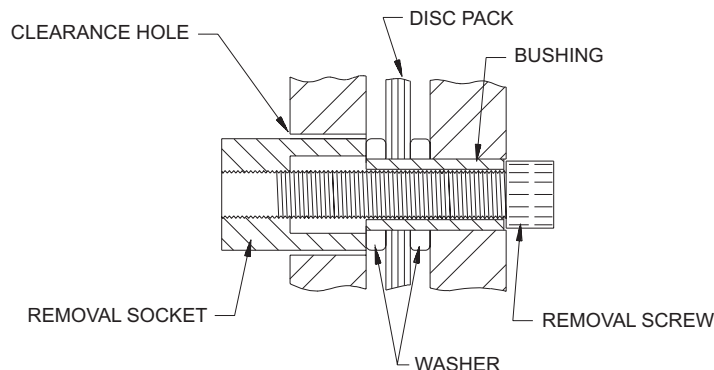

Figure 6. Bolt Disc Pack to Adapter.
6.2 Insert the disc pack removal socket into one of the clearance holes in the spacer flange or ring (Figure 6). Install the removal cap screw and turn it until it cannot be tightened any more.